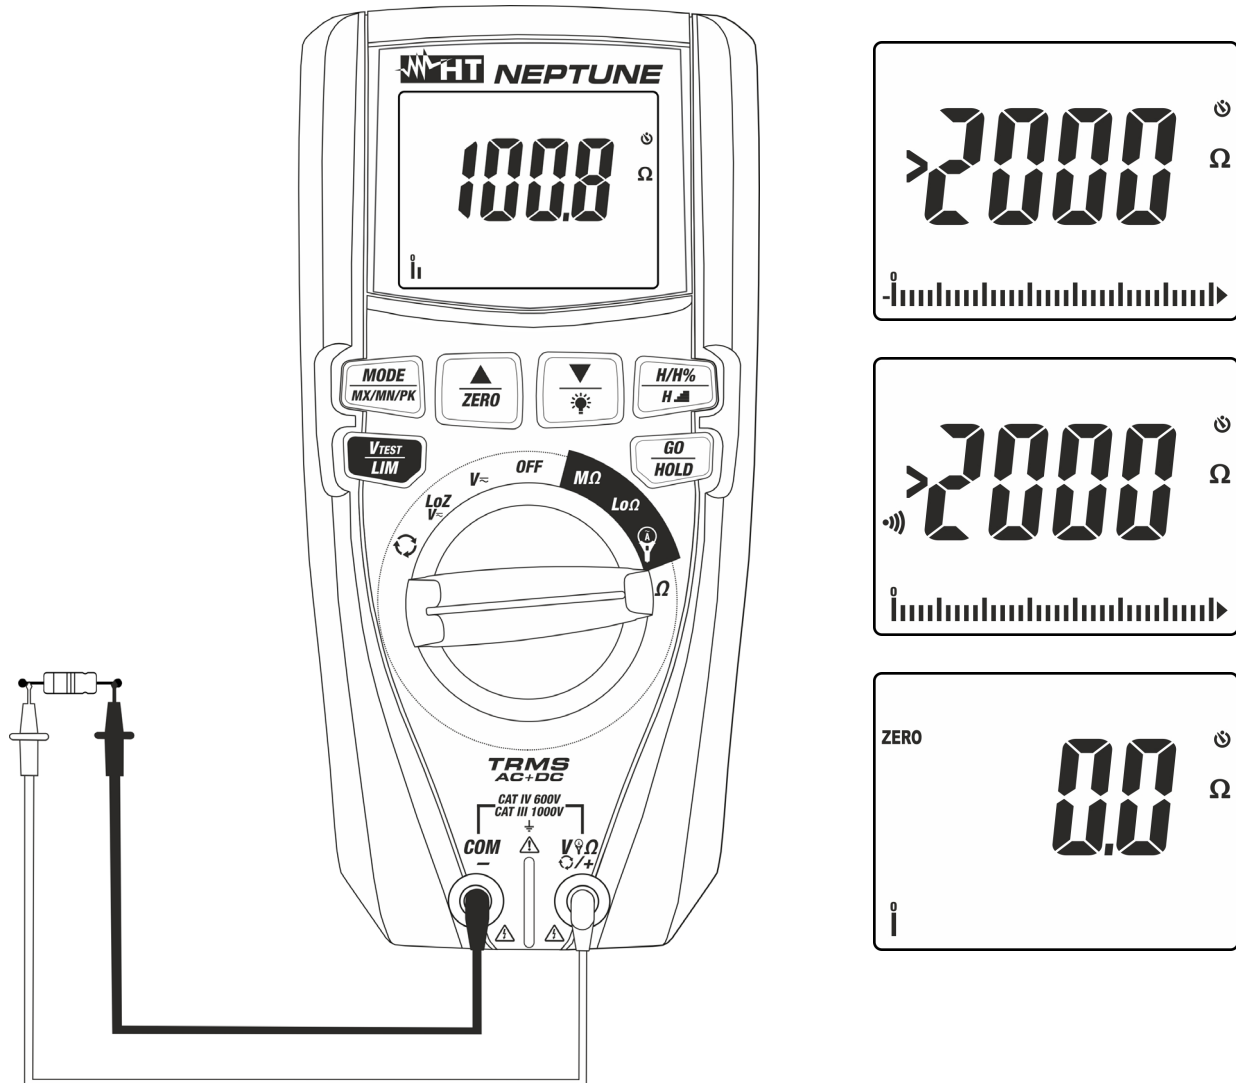

Fig. 9: Use of the instrument for resistance measurement and continuity test
4. Position the test leads in the desired spots of the circuit to be measured (see Fig. 9). The display shows the value of resistance.
5. If the display shows the message “>2000 $\Omega$ ” (see Fig. 9) the maximum measurable value has been reached.